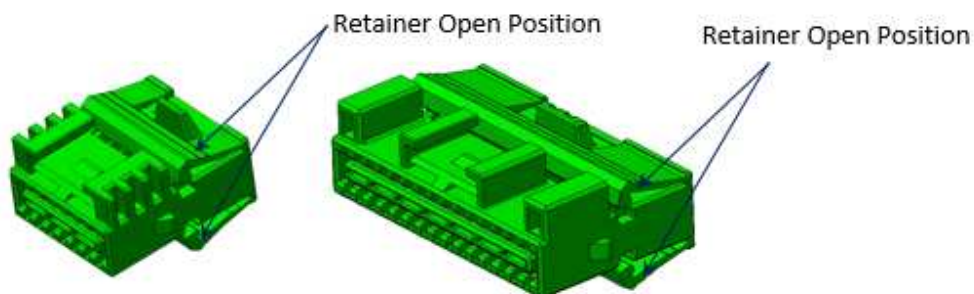

Figure 4
2. Make sure that the retainer is open as shown in Figure 4. If it is not, open the retainer according to Paragraph 4.1.2.